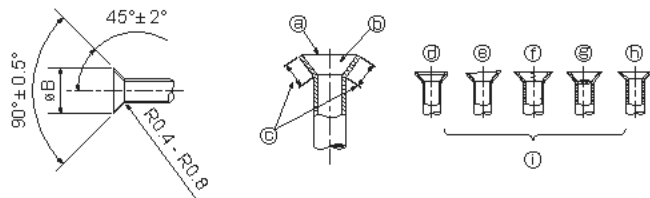
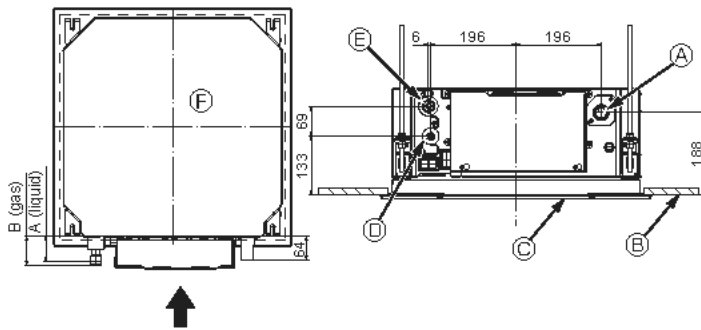

Fig. 5-6
Fig. 5-7
5.3.5. Check (Fig. 5-6)
- ① Smooth all around
- ② Inside is shining without any scratches
- ③ Even length all around
- ④ Too much
- ⑤ Tilted
- ⑥ Scratch on flared plane
- ⑦ Cracked
- ⑧ Uneven
- ⑨ Bad examples
5.4. Refrigerant and drainage piping locations (Fig.5-7)
- ① Drain pipe
- ② Ceiling
- ③ Grille
- ④ Refrigerant pipe (liquid)
- ⑤ Refrigerant pipe (gas)
- ⑥ Main unit